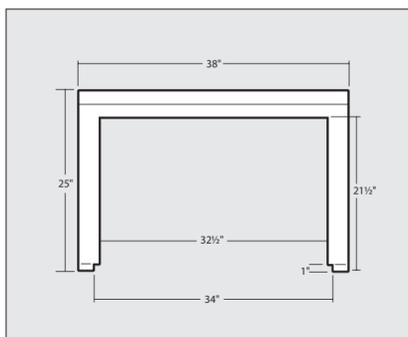

FIGURE 1. Mark cutout according to these dimensions.
Note: If replacing a sink in an existing counter top, the sink cutout in the counter top must not be wider than 32.5" or more than 21.5" from the front edge (see Fig. 1 on page below). If the existing cutout exceeds these dimensions then a new counter top is required.
- + Mark the position of the cutout for the sink on your countertop using the dimensions shown in Fig. 1.